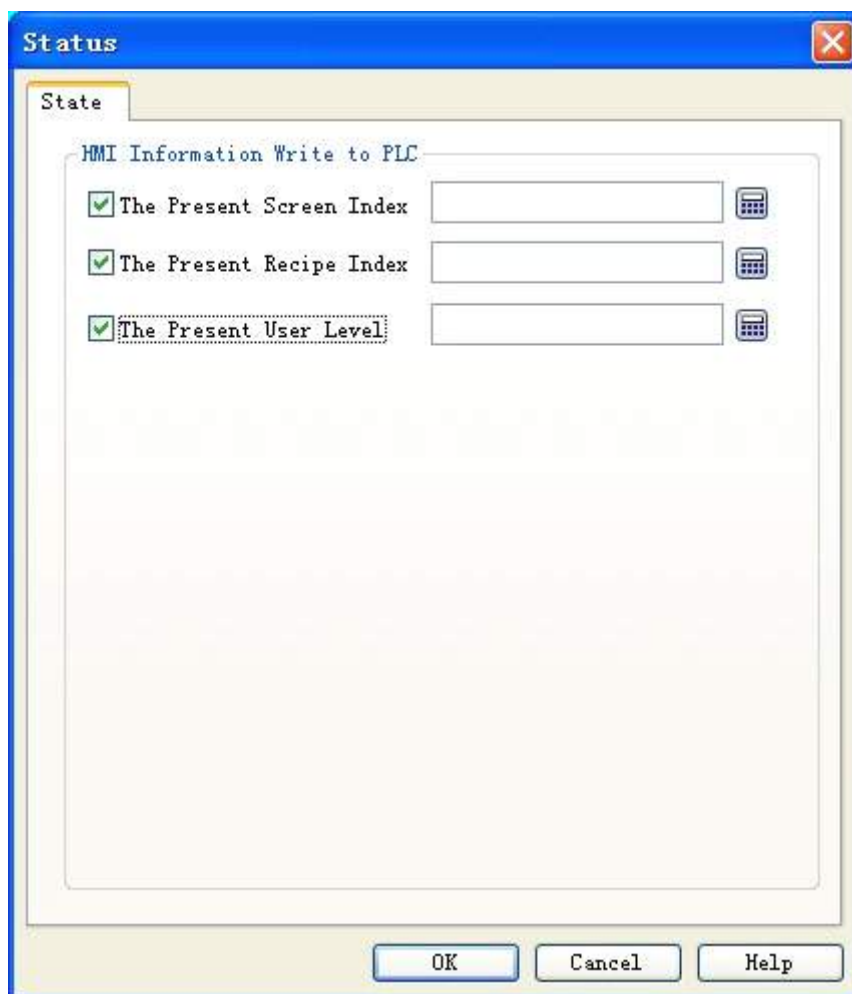

Figure 7-4 Setting of HMI status
- ◆ Double click the option “HMI Status” in “Project Manager” to pop up a dialog box as shown in figure 7-4.